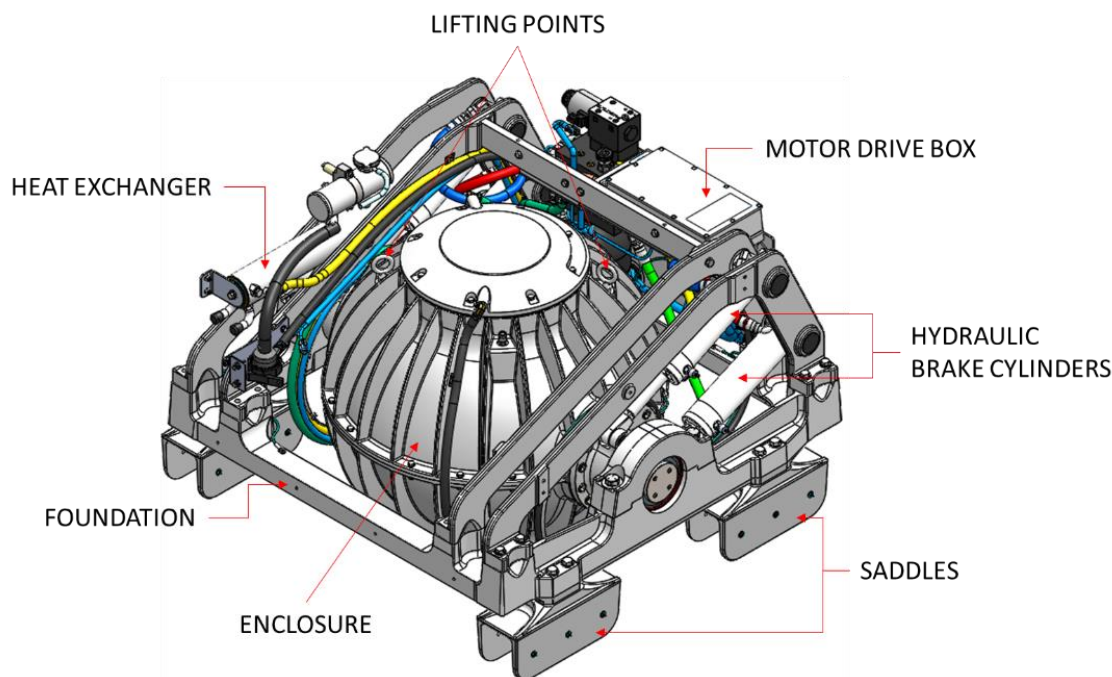

FIGURE 1 – SEAKEEPER 16/18
- The Seakeeper must only be lifted from the supplied lifting eyes (See Section 1.4), shown in Figure 1.
- While handling / installing the Seakeeper assembly, protect exposed hydraulic brake cylinder rods (See Figure 1) from scratches or damage as this could lead to premature seal failure and oil leaks.